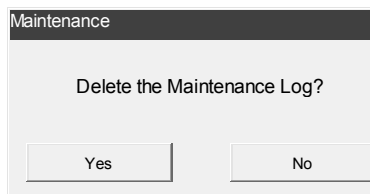

Fig. 7-57 Delete Maintenance Log
- Confirm your choice by pressing in the **<Delete the Maintenance Log?>** screen (Fig. 7-57).